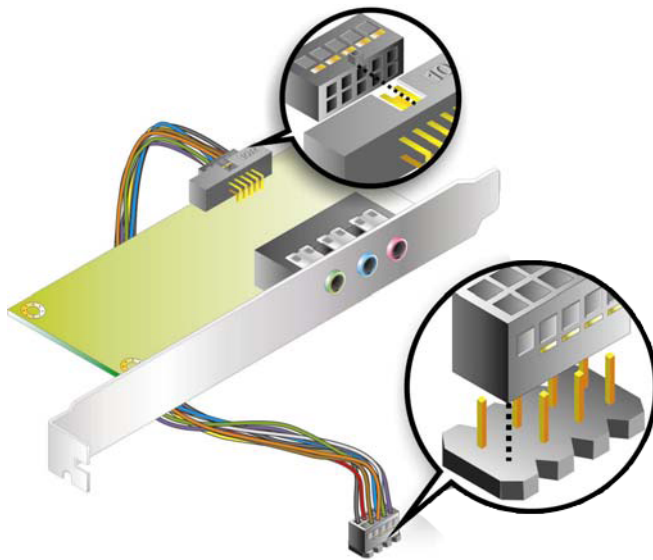

Figure 5-13: 5.1 Channel Audio Kit
Step 3: Align pin 1. Align pin 1 on the onboard connector with pin 1 on the audio kit cable connector. Pin 1 on the audio kit cable connector is indicated with a white dot. See **Figure 5-13**.